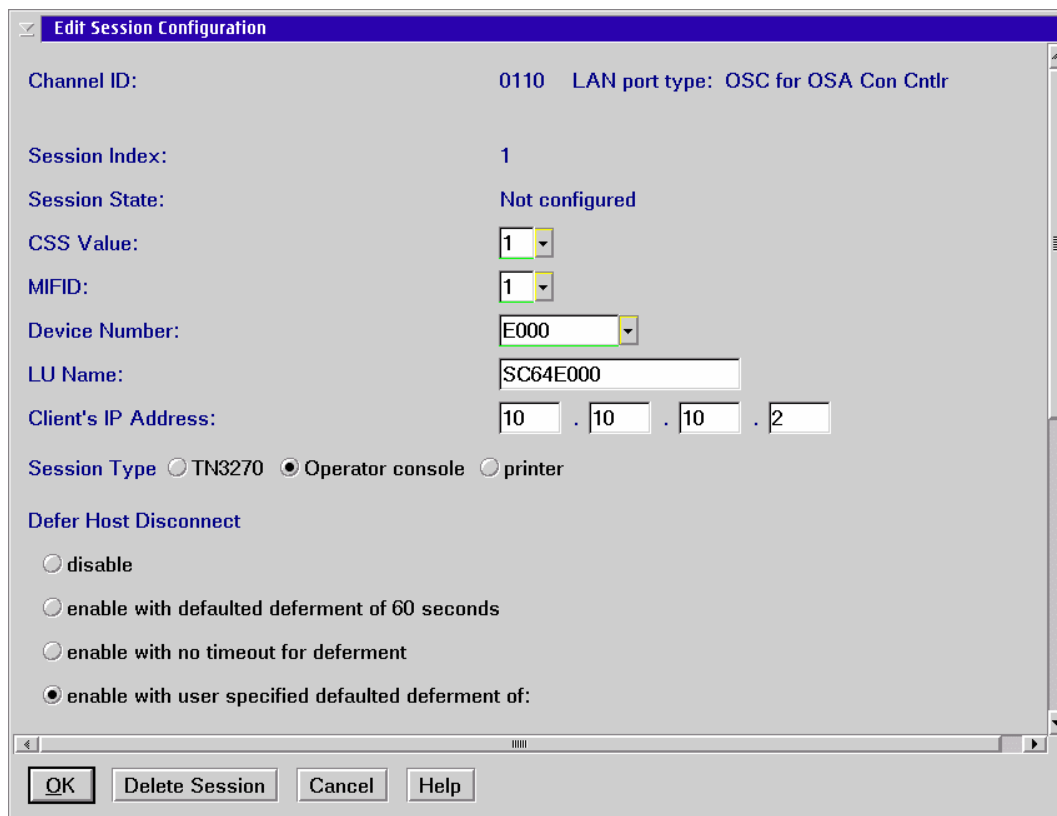
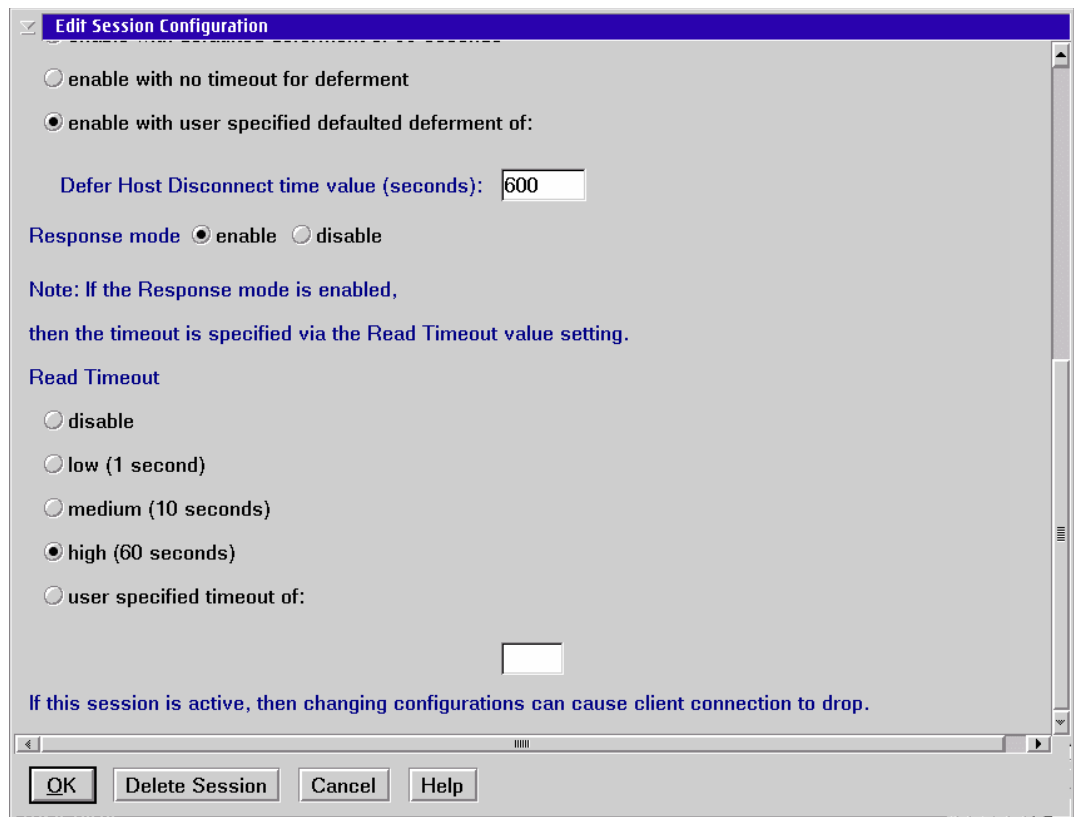

Figure 3-9 Edit session configuration part 1
Figure 3-10 Edit session configuration part 2
2. On the Edit Sessions Configuration panel, select the top session index line (Index 1), and click **Change**. The Edit Session Configuration panel is displayed (see Figure 3-9 and Figure 3-10 on page 54).